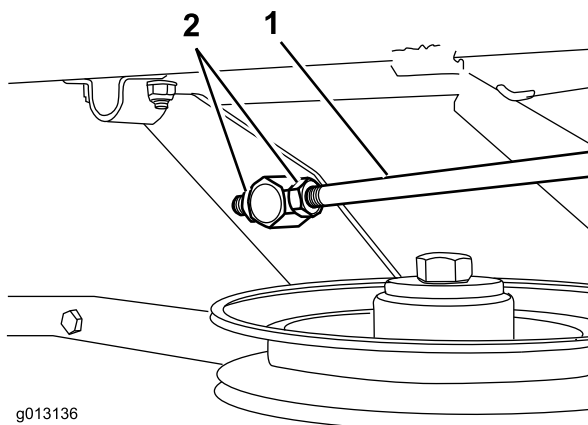

Figure 42
- To obtain the proper height distance between the front and rear tips of the left blade, adjust the length of the linking rod (located on the left side of the machine) (Figure 42).